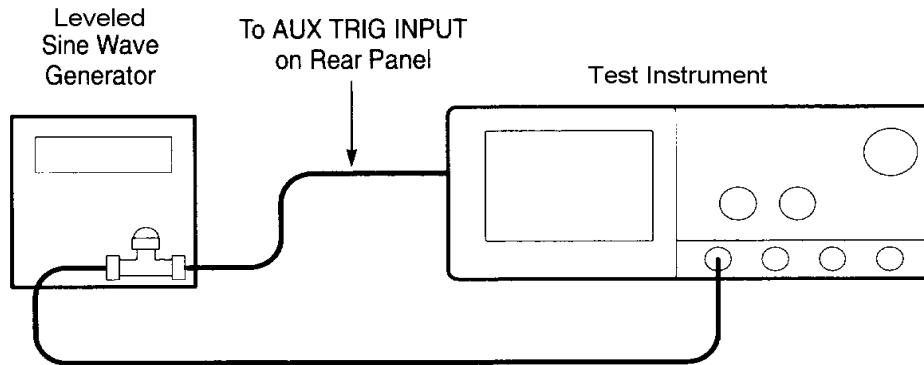

Figure 7. Equipment setup.
(11) Press front-panel **TRIGGER MENU** key.
(12) Press main-menu **Mode & Holdoff** key.
(13) Press side-menu **Normal** key.
(14) Press front-panel **VERTICAL MENU** key.
(15) Press main-menu **Coupling** key.
(16) Press side-menu **W** key to select **50 W** setting.
(17) Press front-panel **Shift** key.
(18) Press front-panel **ACQUIRE MENU** key.
(19) Press main-menu **Mode** key.
(20) Press side-menu **Average 16** key.
(21) Connect equipment as shown in figure 7 below.